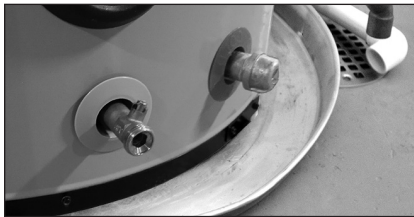

Figure 7 - A suitable drain pan piped to an adequate drain can help protect flooring from leaks and drips.
- Suitable drain pan (Figure 7 on page 8)
- Install a suitable drain pan (available at Lowe's®) under the water heater (Figure 7) to catch condensation or leaks in the piping connections or tank. Most codes require, and we recommend, installing the water heater in a drain pan that is piped to an adequate drain. The drain pan must be at least 2" (50 mm) wider than the diameter of the water heater. Install the drain pan so the water level would be limited to a maximum depth of 1-3/4" (45 mm).
- In a suitable drain pan piped to an adequate floor drain or external to the building (Figure 7).